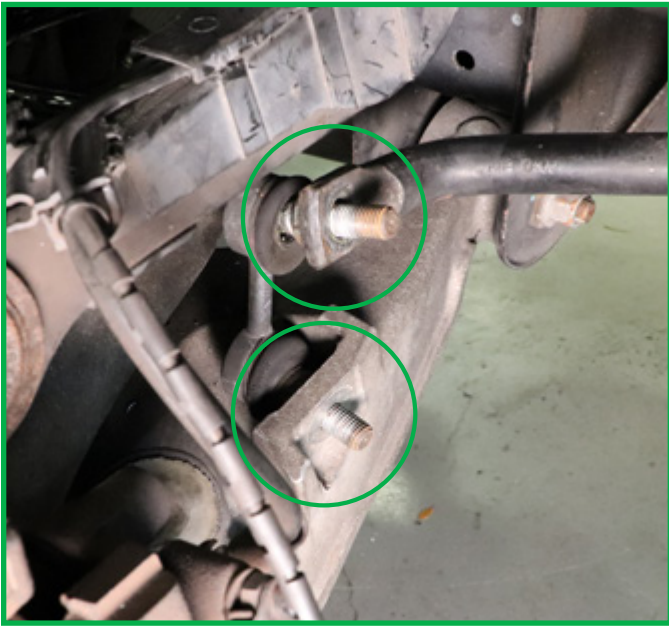

FIGURE 37
6. Reconnect sway bar link. Tighten to manufacturer's specifications. (Figures 37, 38)